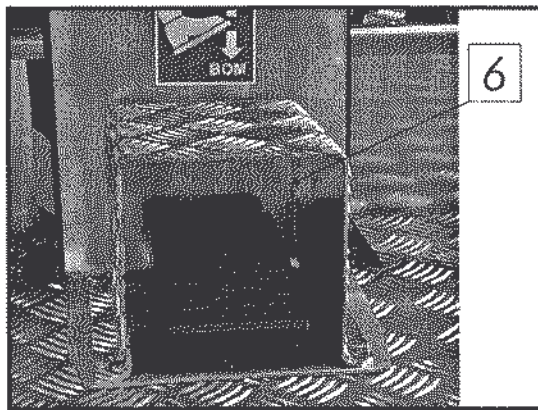
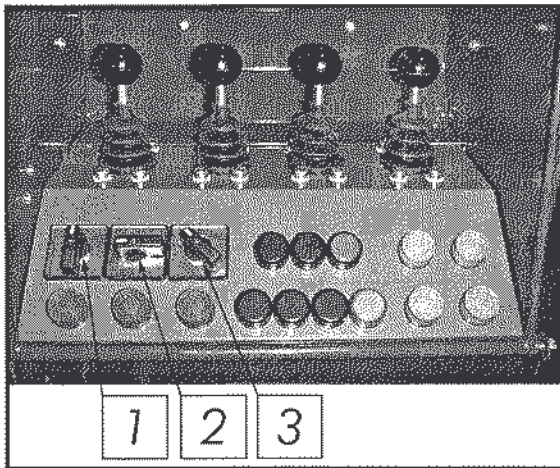

Figure 8-5. Foot pedal
Figure 8-7. Selector switches
- Each of the four control levers has several functions, depending on the position of the selector switch for outriggers / driving and steering (switch No. 2, figure 8-7), foot pedal (switch No. 6, figure 8-5) and outriggers, as well as the booms.
- Driving and steering is possible when the booms and outriggers are in transport position, and the pedal has not been pressed down. The selector switch for outriggers / driving and steering (switch No. 2 figure 8-7) must be in position driving and steering.
- The outriggers can be raised and lowered when the booms and outriggers are in transport position, and the pedal has not been pressed down. The selector switch for outriggers / driving and steering (switch No. 2 figure 8-7) must be in position OUTRIGGERS.
- Slewing the booms. The pedal switch (switch No. 6, figure 8-5) must be pressed down and the outriggers must be in the support position (= lower position).
- Driving. The booms must be in the transport position (=on transport support) and the outriggers raised (=in transport position). The pedal (switch No. 6, figure 8-5) must not be pressed down and the selector switch for outriggers / driving and steering (switch No. 2 figure 8-7) must be in position DRIVING AND STEERING.
- Raising / lowering the outrigger (left front outrigger). The booms must be in transport position (=on transport support). The foot pedal (switch No. 6, figure 8-5) must not be pressed down and the selector switch for outriggers / driving and steering (switch No. 2, figure 8-7) must be in position OUTRIGGERS.
- Raising / lowering the booms. The foot pedal (switch No. 6, figure 8-5) must be pressed
- Raising / lowering the outrigger (right front outrigger). The booms must be in transport position (=transport support). The foot pedal (switch No. 6, figure 8-5) must not be pressed down and the selector switch for outriggers / driving and steering (switch No. 2, figure 8-7) must be in position OUTRIGGERS.
- Telescope in / out. The foot pedal (switch No. 6, figure 8-5) must be pressed down and the outriggers must be in support position (= lower position).
- Fast driving. The booms must be in transport position (=on transport support) and the outriggers must be raised (=in transport position). The foot pedal (switch No. 6, figure 8-5) must not be pressed down and the selector switch for outriggers / driving and steering (switch No. 2, figure 8-7) must be in position DRIVING AND STEERING.
- Raising / lowering the outrigger (left rear outrigger). The booms must be in transport position (=on transport support). The foot pedal (switch No. 6, figure 8-5) must not be pressed down and the selector switch for outriggers / driving and steering (switch No. 2, figure 8-7) must be in position OUTRIGGERS.
- Raising / lowering the jib. The foot pedal (switch No. 6, figure 8-5) must be pressed down and the outriggers must be in support position (=lower position).
- Slow driving. The booms must be in transport position (=transport support) and the outriggers must be raised (=in transport position) The foot pedal (switch No. 6, figure 8-5) must not be pressed down and the selector switch for outriggers / driving and steering (switch No. 2, figure 8-7) must be in position DRIVING AND STEERING.
- Raising / lowering the outrigger (right rear outrigger). The booms must be in transport position (=on transport support). The foot pedal (switch No. 6, figure 8-5) must not be pressed down and the selector switch for outriggers / driving and steering (switch No. 2, figure 8-7) must be in position OUTRIGGERS.